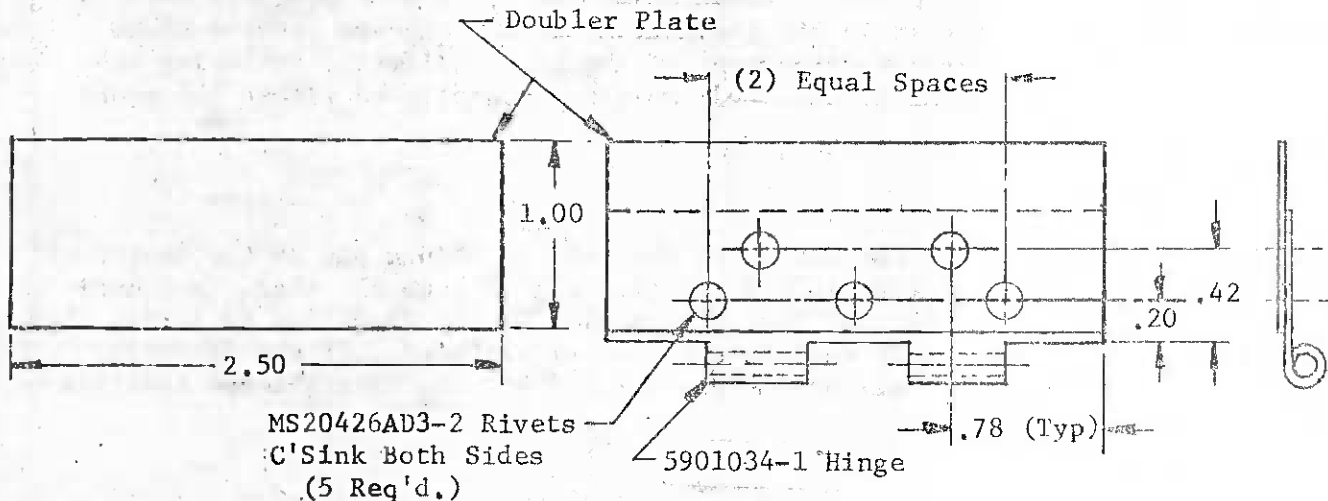

FIGURE 2. HINGE HALF DOUBLER PLATE ASSEMBLY
Remove the three (3) hinge half mounting screws in the elevator tip, the cotter pin retaining the hinge pin and remove the hinge pin. Remove the hinge half from the tip. Reinstall hinge pin to support trim tab. Fabricate a doubler of 2024-T3 clad aluminum, .040" thick x 1.00" x 2.50". Assemble the doubler to the hinge half as shown in Figure 2. Match drill mounting holes through tip and doubler. Assemble in reverse order and compensate for the added doubler thickness by eliminating shims as required during reassembly in tip.